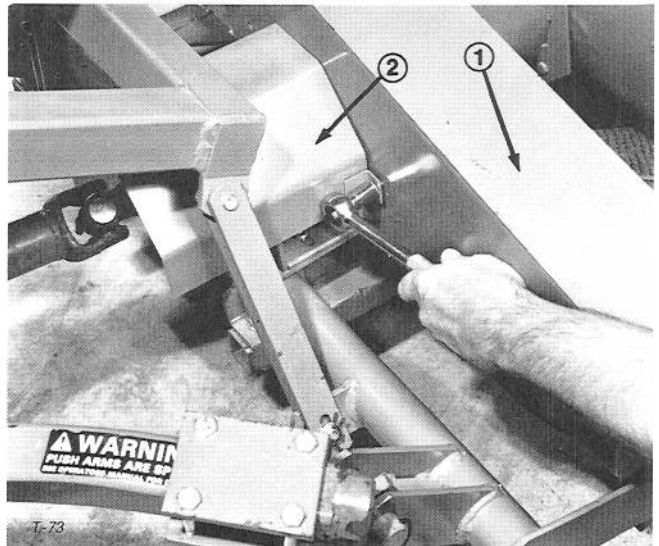

Figure 12
7. Install the belt shield over the snowthrower belts and the power take off shield over the PTO drive belt (Fig. 12).